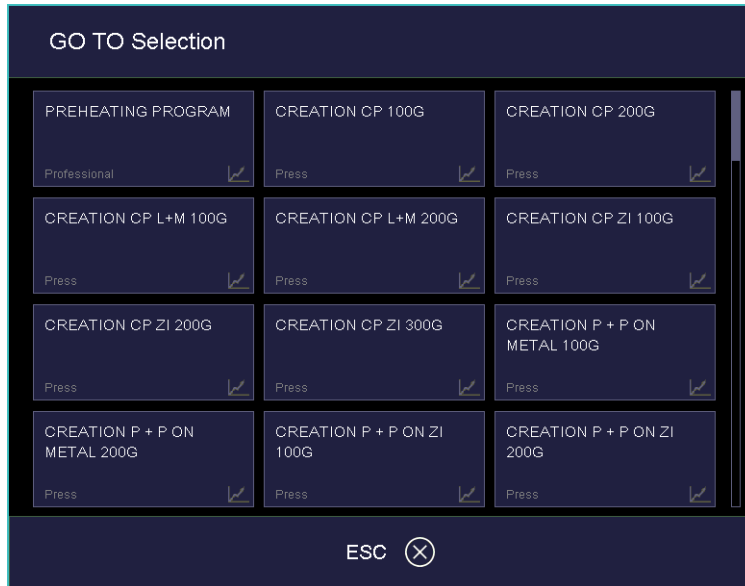

Fig. 5-8 "GOTO Selection" window (example)
- [GO TO] Opens the "GO TO selection" window. See Fig. 5-8. You can select another program within the set.